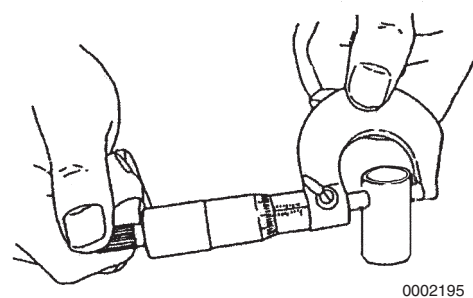

Figure 6-73
2. Measure the outside diameter of the tappet stem (Figure 6-73, (1)). Record the measurements. See *Tappet* on page 6-13 for the service limit.